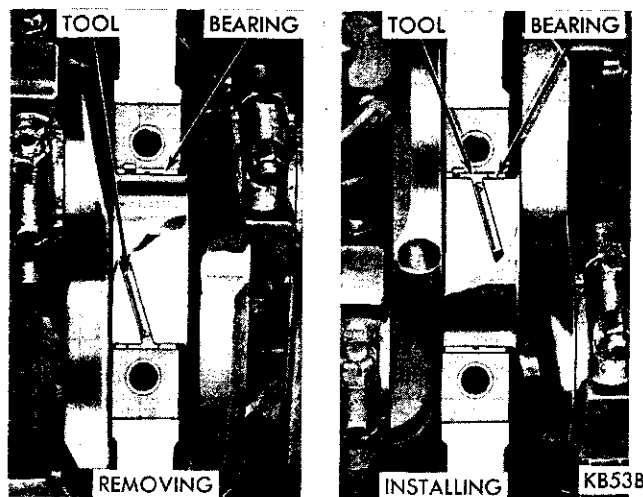

Fig. 43—Removing or Installing Upper Main Bearing
- (1) Remove oil pan and inspect the bearing cap identifying numbers.
- (2) Remove bearing caps one at a time. Remove upper bearing by inserting Tool C-3059 (Fig. 43) into oil hole on crankshaft.
- (3) Slowly rotate crankshaft clockwise, forcing out upper bearings.
- (1) Start bearing in place, and insert Tool C-3059 into oil hole of crankshaft (Fig. 43).
- (2) Slowly rotate crankshaft counter-clockwise sliding the bearing into position. Remove Tool C-3059.